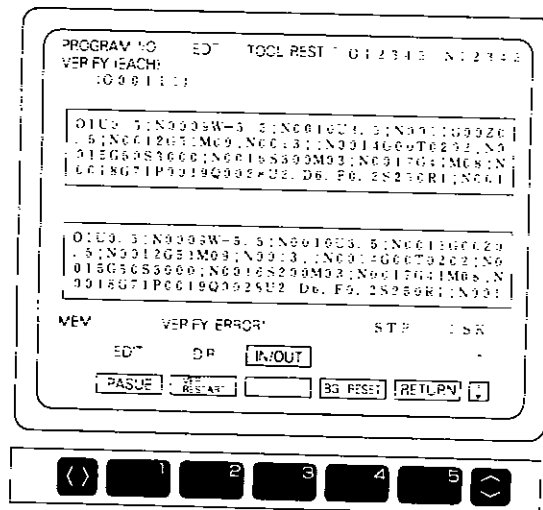

Fig. 3.4.44 Display of Mismatch
7. If inconsistency between the memory contents and the input from external equipment was found, the screen changes as shown in Fig. 3.4.44. The last EOBs (;) of the unmatched blocks blink in highlight.
8 If inconsistency between the memory contents and the input from external equipment was found, the screen shown in Fig. 3.4.44 is displayed, and the last EOBs (;) of the unmatched blocks blink in highlight.